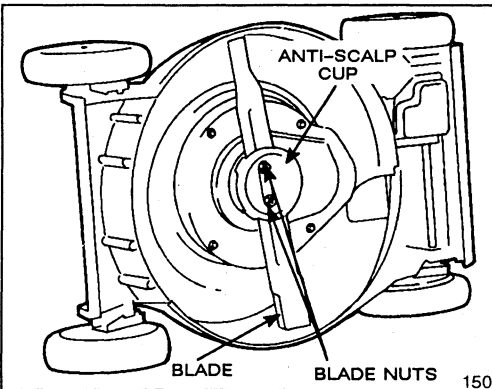

Figure 18
- Tip mower on its right side (Fig. 18).
- REMOVING BLADE—Grasp end of blade using a rag or thickly padded glove. Remove blade nuts, anti-scalp cup, blade, blade spacer, and rotating screen (Figs. 18 & 20).